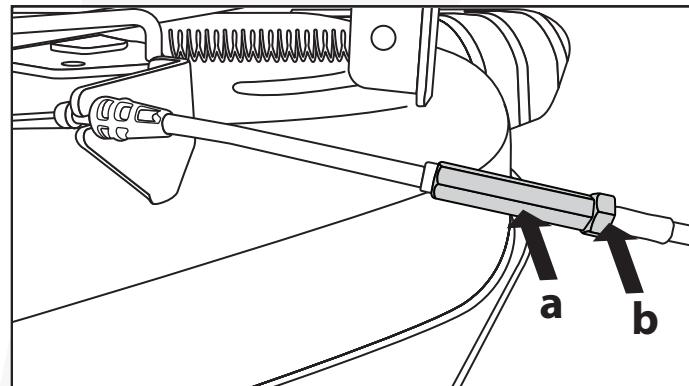

Fig.30
1. The deck cable is set at the factory with no exposed threads showing behind the jam nut (b). (Fig.30)